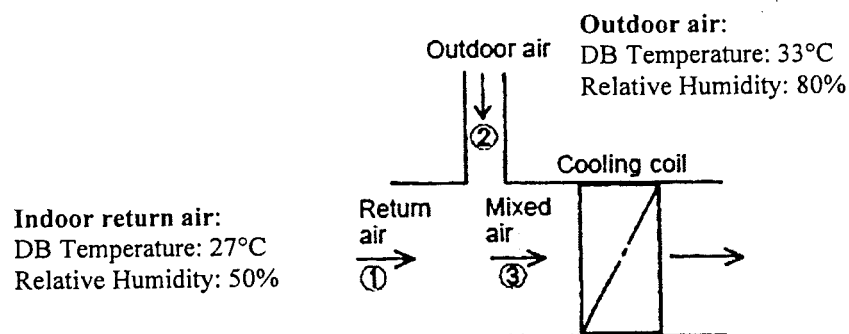

Figure Q2(c)
- (c) **Figure Q2(c)** referring the case of mixing 20% of the quantity of outdoor air having a dry-bulb temperature of 33°C and a relative humidity of 80% and 80% of the quantity of indoor return air having a dry-bulb temperature of 27°C and a relative humidity of 50%.